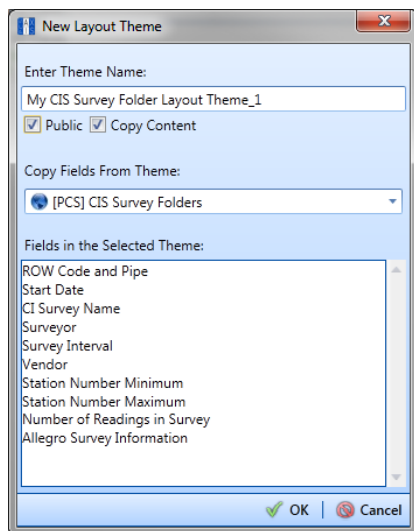

Figure 5-10. New Layout Theme
- 5 Click the **Customize** tab  then the  **Add** button to open the *New Layout Theme* dialog box (Figure 5-10).